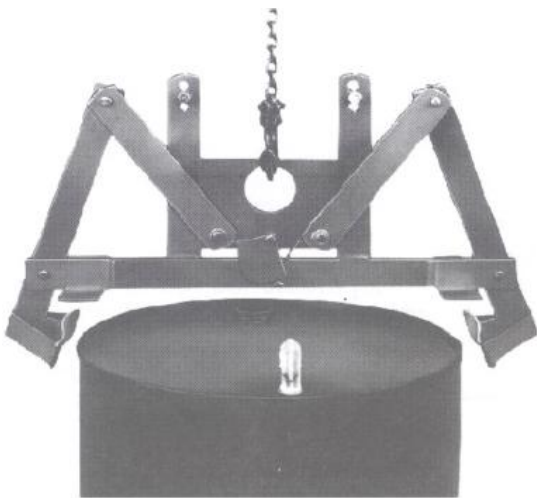

Figure 2
- (1) Hang the Vertical Drum Lifter from the lifting device (hoist etc.) from the hole in the center of the lifting plate. See Figure 2 below.
- (2) To engage the drum, the grab arms must be in the open position (Figure 2). If arms are not open, lower the unit completely to the floor until the hoist is loose. Lift the unit up again and the arms should open automatically. If not, lower the unit again and check the latch assembly for proper alignment and tightness.